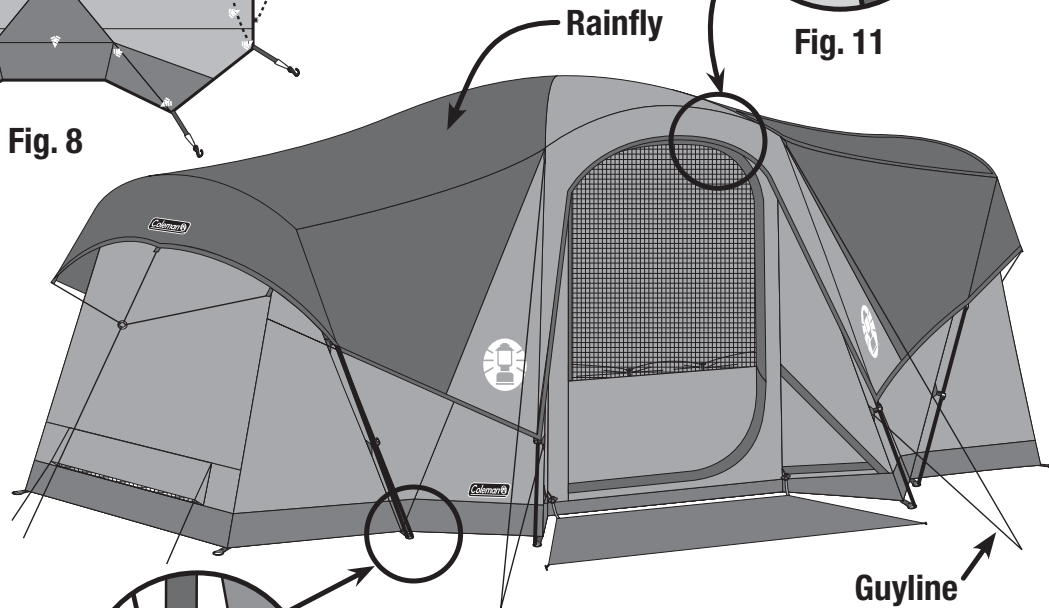

Fig. 9
- Drape rainfly over tent. (Fig. 9)
- Attach and stake out guylines. (Fig. 9)